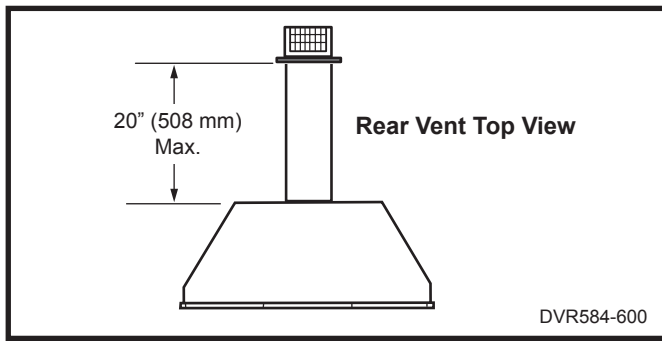

Fig. 13 Rear vent application, no elbows.
- The maximum horizontal distance between the rear of the appliance (or end of the transition elbow in a corner application) and the outside face of the rear wall is 20" (508 mm). (Fig. 13, 14)